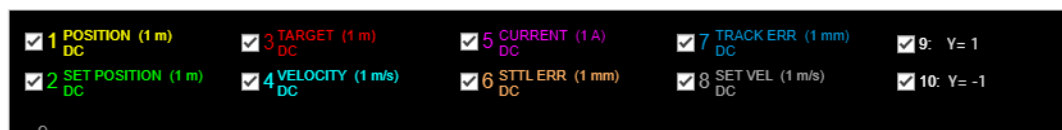

*Figure 4-22: Vertical Control Pane*
The Vertical Control section (see Figure 4-22) at the bottom of the Scope Controls pane, as shown in Figure 4-7, provides tools for configuring the vertical axis (Y) for each signal being displayed.